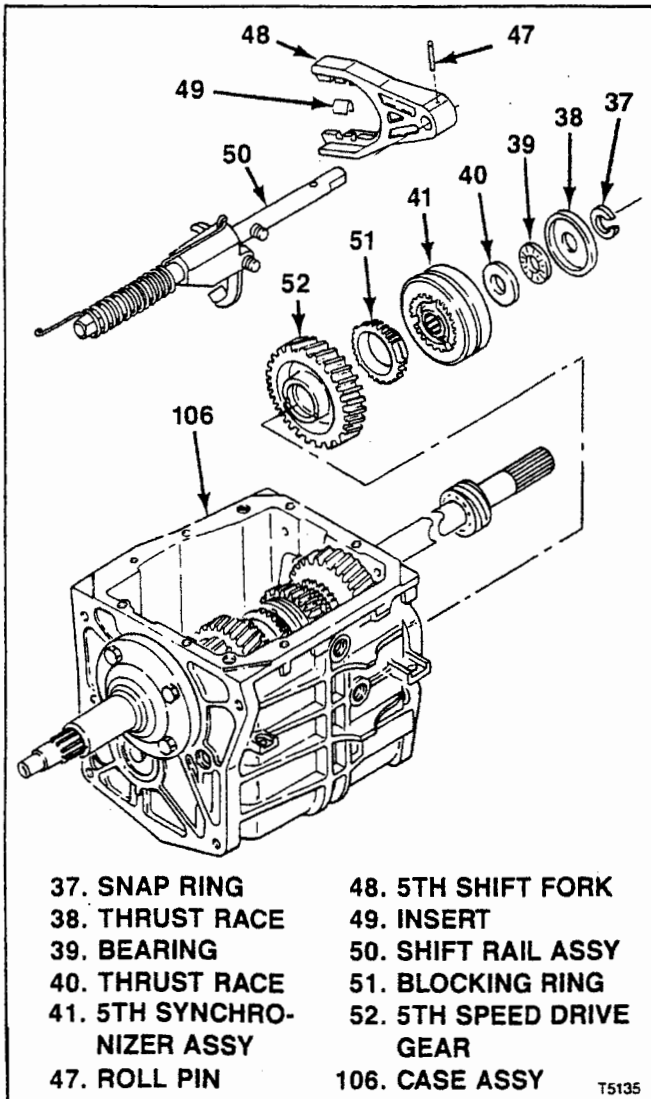

Figure 4-5. T5 NWC 5th Synchronizer, Shift Fork and Gear
c. Work 5-R shift lever (36) out of engagement and lift out top of transmission case (106).
4-11. REMOVAL OF T5 NWC 5TH SYNCHRONIZER, SHIFT FORK AND GEAR. At rear of transmission case (106), remove parts as follows (see figure 4-5):
a. Remove snap ring (37), thrust race (38), bearing (39) and thrust race (40).
b. Simultaneously pull 5th synchronizer assembly (41) and 5th shift fork (48) with attached shift rail assembly (50).